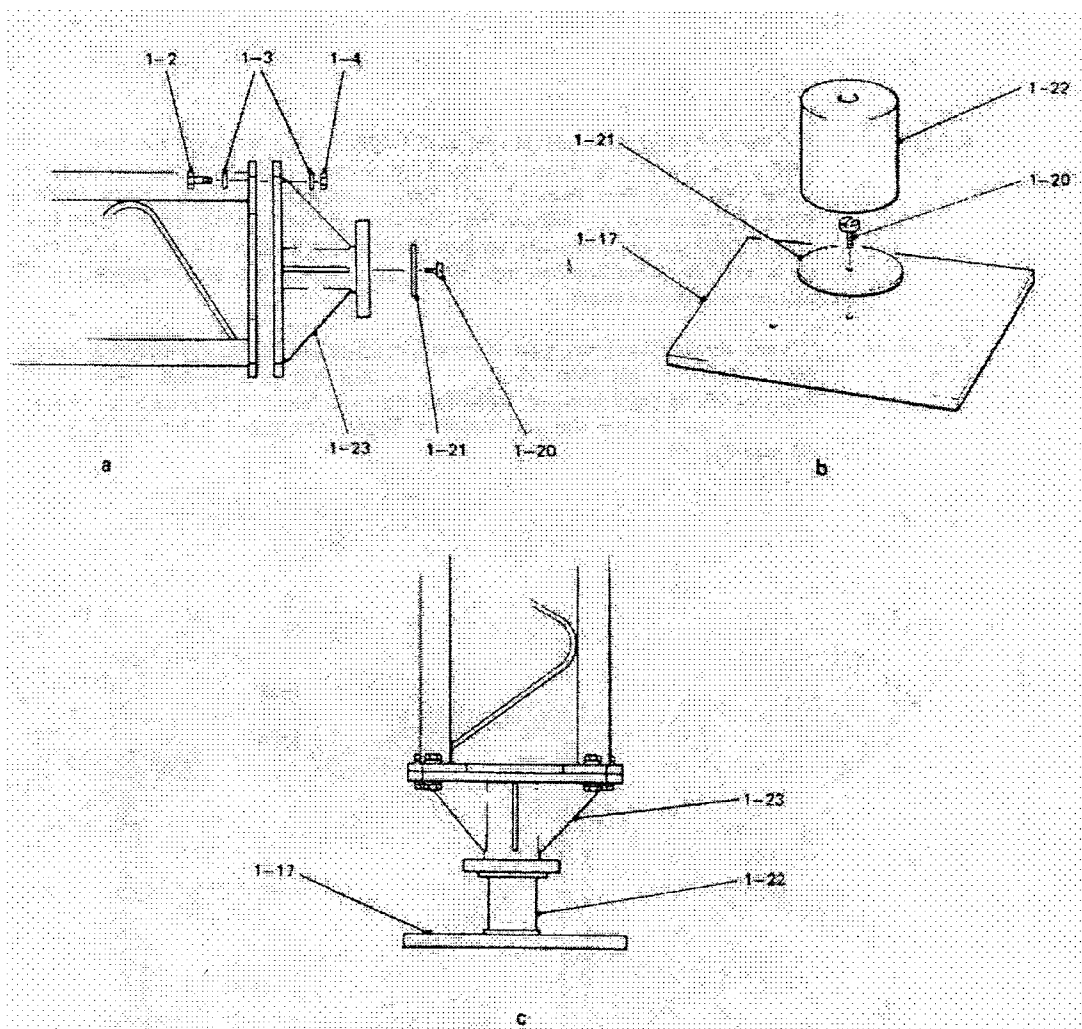

FIGURE 6 – Mast Base Insulator
- Step 5 Fix the insulator top unit (1-23) to the bottom of the mast section, as shown in Fig. 6(a), by use of bolts (1-2), washers (1-3) and nuts (1-4). Fit packing washer (1-21) to the underneath of the insulator top unit and secure with screw (1-20).
- Step 6 Fit insulator (1-22) to the base plate on foundation Block A on top of packing washers (1-21) as shown in Fig. 6(b).
- Step 7 The first mast section should now be carefully lifted and positioned so that the insulator top unit, which is fitted to the bottom of the section, fits on to the insulator on the base plate, as shown in Fig. 6(c). Orientate mast legs to align with guy lanes (See Fig. 2)